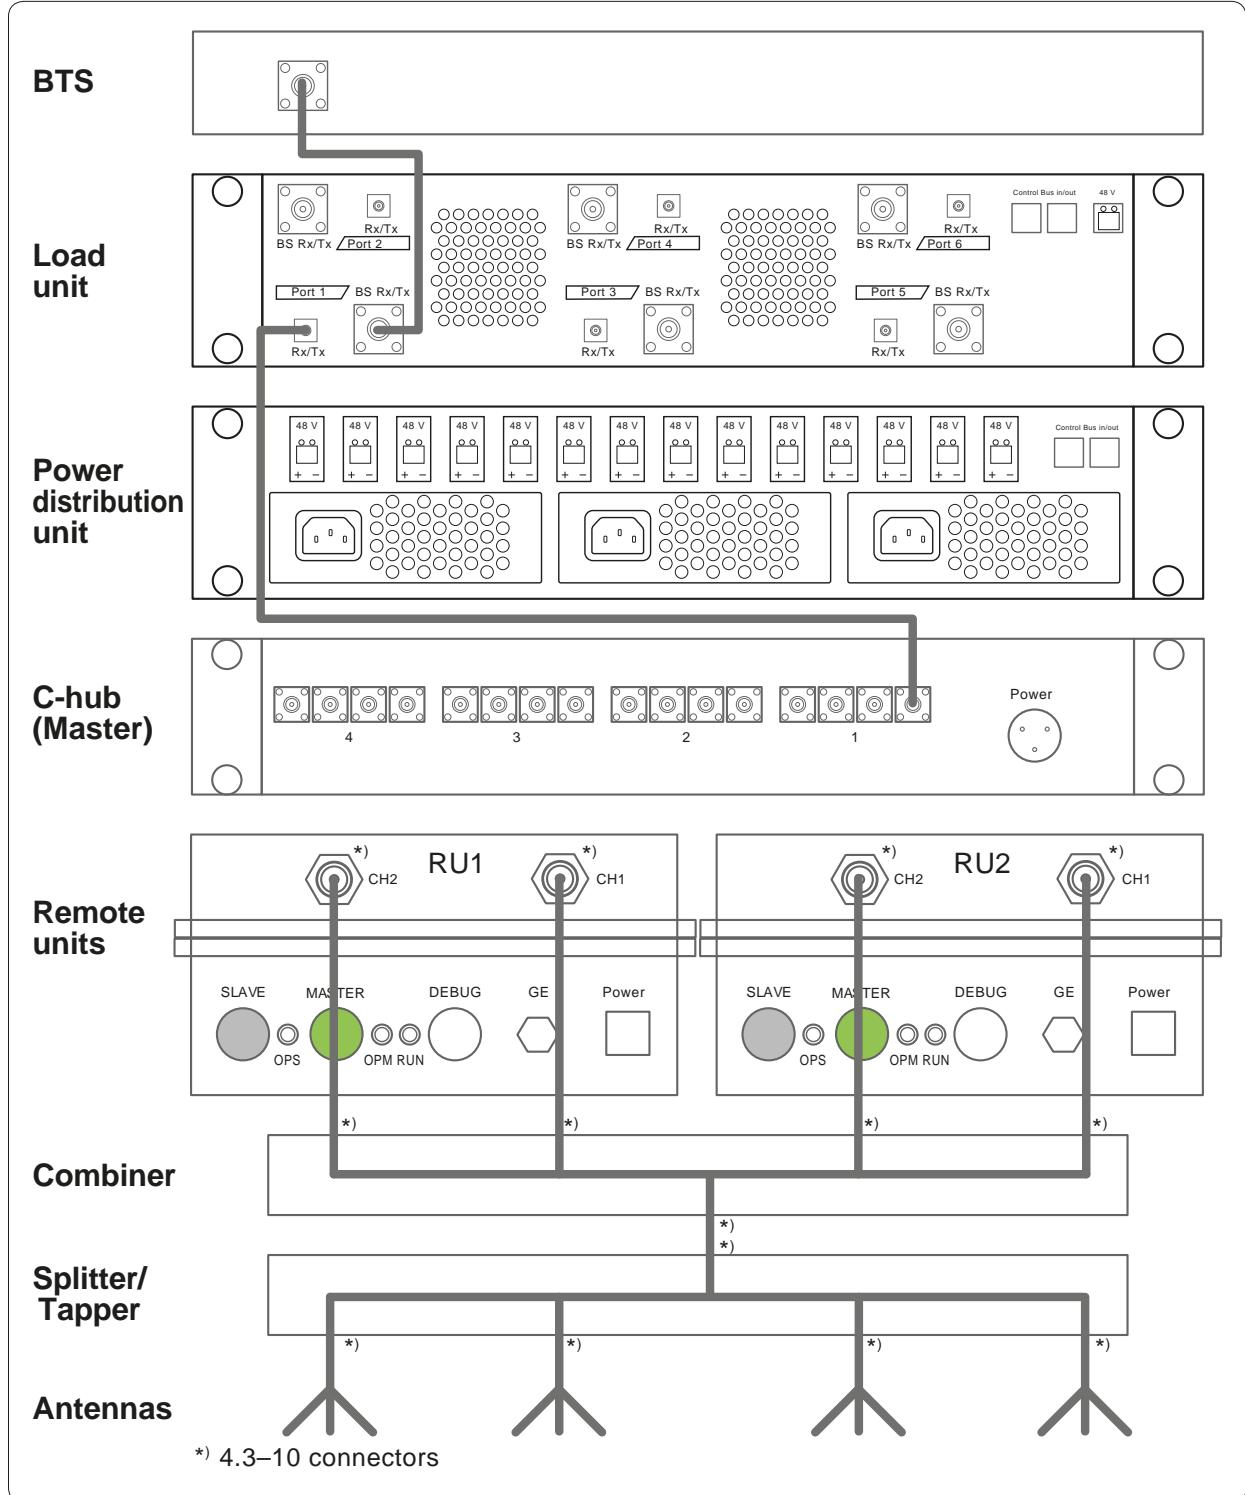

Fig. 36: Coaxial cable layout
- Install the required coaxial connections. Fig. 36 gives an overview.